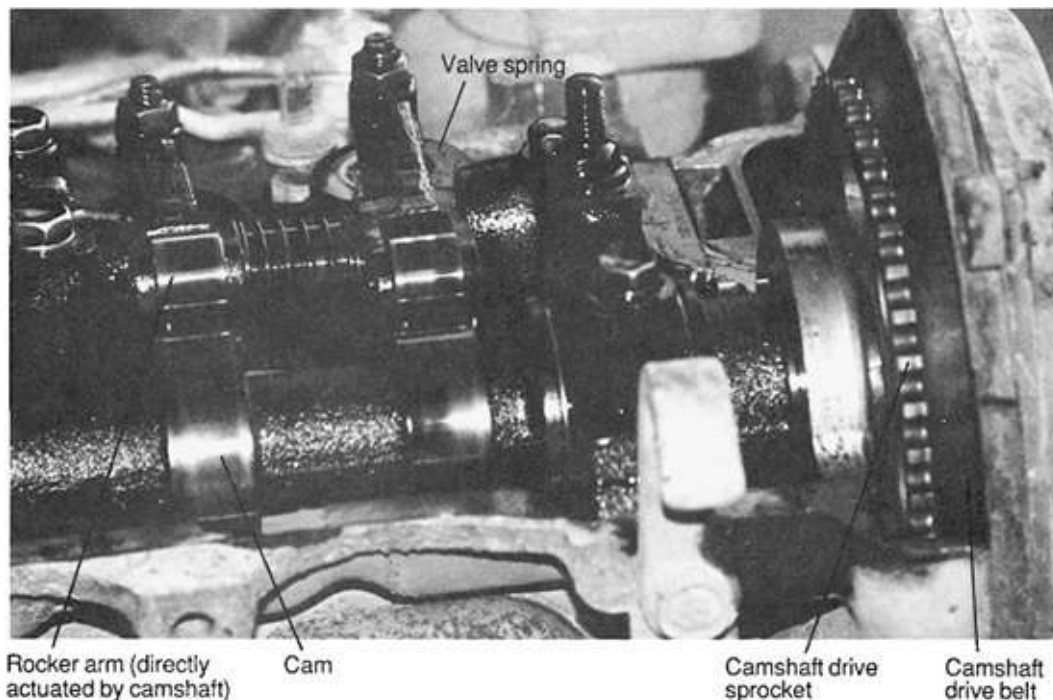
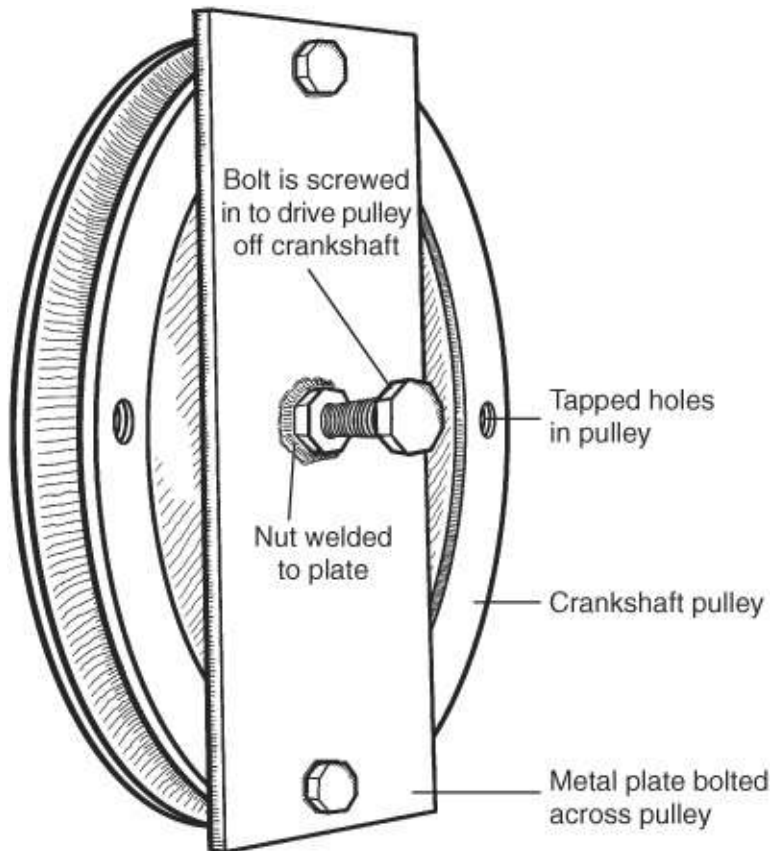

FIGURE 7-9. *An overhead camshaft.*
FIGURE 7-10. *A homemade crankshaft pulley puller. (Fritz Seegers)*
8. On some engines with an overhead camshaft, gears drive the camshaft; on others it is powered by a belt or chain (see Figure 7-9). To remove the rockers or the cylinder head, you must first remove the belt or chain. Before you can do that, you must remove the crankshaft pulley and the timing case cover on the front of the engine. You will probably need a special puller to remove the pulley. If the pulley has any tapped (threaded) holes in its face, you can make a puller (see Figure 7-10). To remove the pulley: